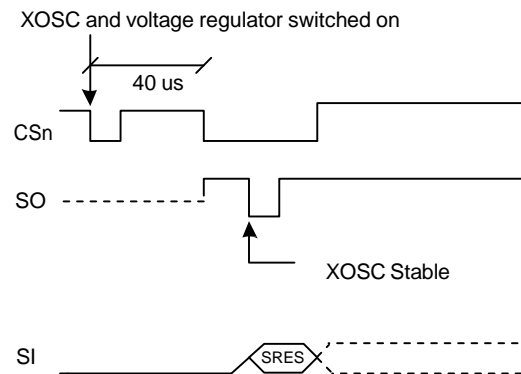

Figure 21: Power-On Reset with SRES
**HC210M-TR** employs matrix interleaving, which is illustrated in Figure 21. The on-chip interleaving and de-interleaving buffers are 4 x 4 matrices. In the transmitter, the data bits from the rate  $\frac{1}{2}$  convolutional coder are written into the rows of the matrix, whereas the bit sequence to be transmitted is read from the columns of the matrix. Conversely, in the receiver, the received symbols are written into the rows of the matrix, whereas the data